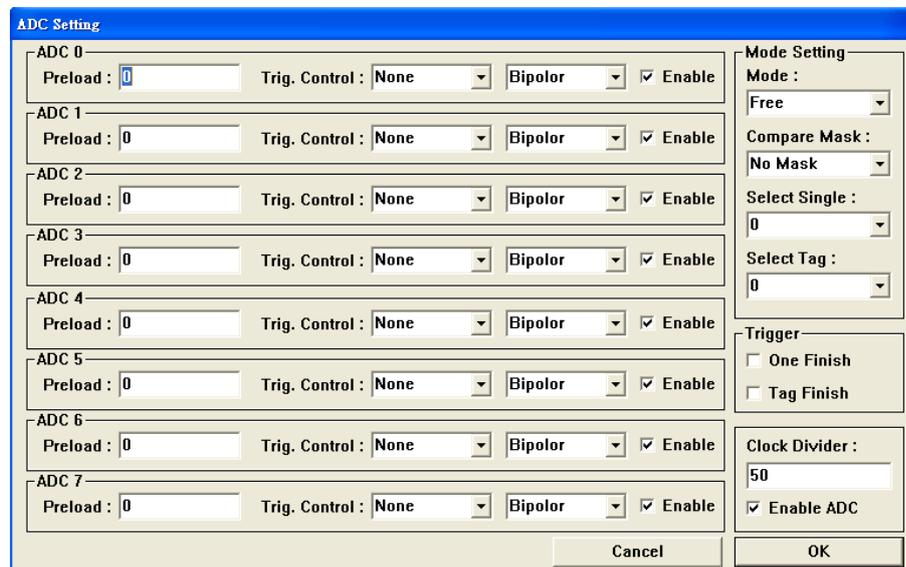

Figure 4-10.1
➔ In the “Preload” field in the ADC Setting window (refer to Figure 4.10.1), set the preloaded comparison value according to the following:
➔ Whether an ADC channel is to trigger comparator interrupt and the method of comparison can be set in the “Trig. Control” list of each channel in the ADC Setting window (refer to Figure 4.10.1). The parameters in the “Trig. Control” list are described as follows:
➔ The masked value can be set in the “Compare Mask” list in the Mode Setting section of the ADC Setting window (Refer to Figure 4-10.1).
➔ To enable a certain ADC channel, check the “Enable” box and “Enable ADC” box in the ADC Setting window (Refer to Figure 4-10.1).
(2) Set ADC interrupt (as shown in Figure 4-10.1)
→ In the “Select Tag” list in the ADC Setting window (Refer to Figure 4-10.1), select one of channels 0 ~ 7 as the tag channel.